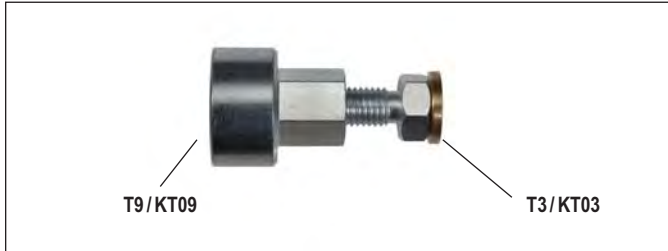
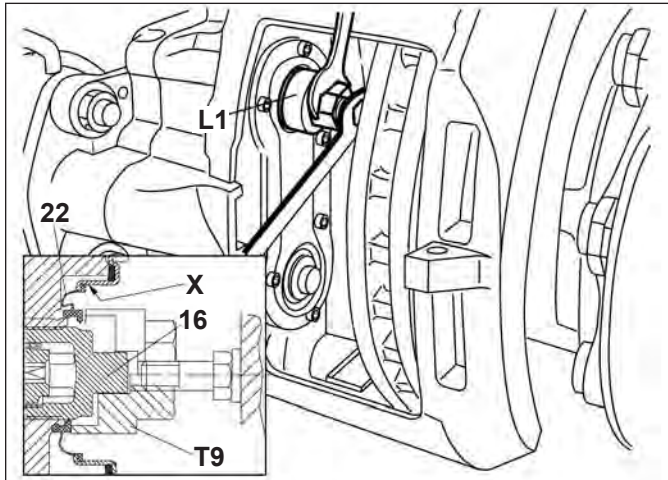

FIGURE 52 - ON-VEHICLE INNER SEAL TOOL (L1)
FIGURE 53 - ON-VEHICLE INNER SEAL INSTALLATION
If the work is being carried out at a workbench, the technician may insert a 2.76 in. (70 mm) spacer (See callout “E” in Figure 52) into the caliper (1) to help avoid the loss of thread engagement.
5.5.12 Position the replacement inner seal (22) over the threaded tube (16). See Figures 52 and 53 for the tools and installation arrangement used. Position the L1 (T3 + T9) with the short spacer (T3) in position as shown in Figure 53. Guide the tool over the end of the threaded tube (16). Install the new inner seal (22) into position by rotating the adjuster nut on the T3 portion of the tool, using an open-ended wrench.